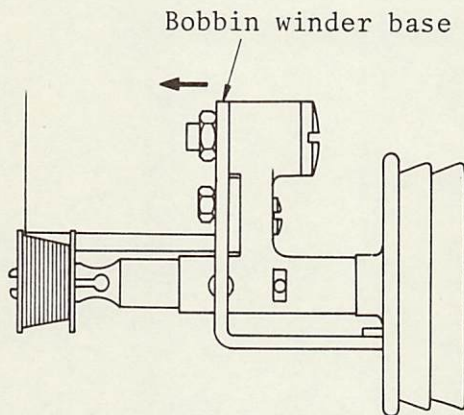

Fig.58
- \* When the bobbin thread is not wound uniformly and leaning to one side(Fig.58), bend the bobbin winder base toward the arrow direction.